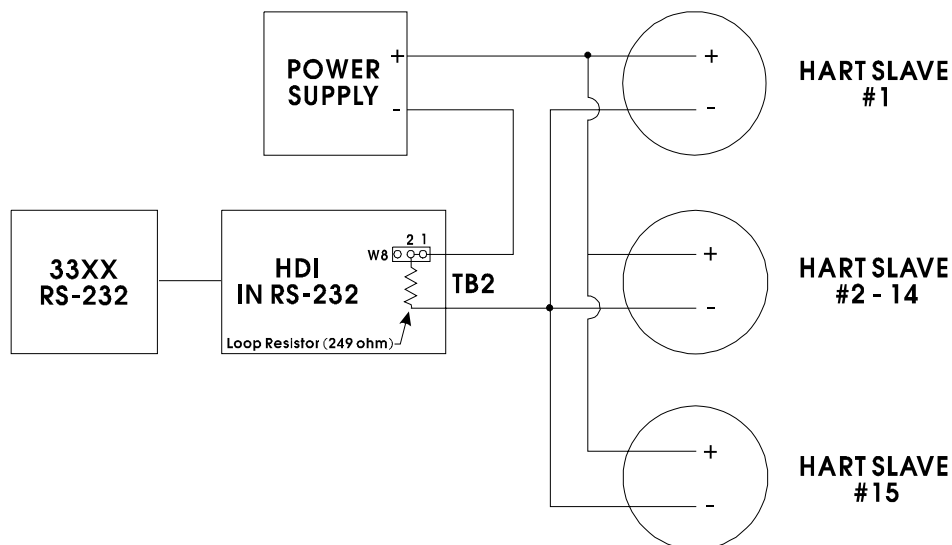
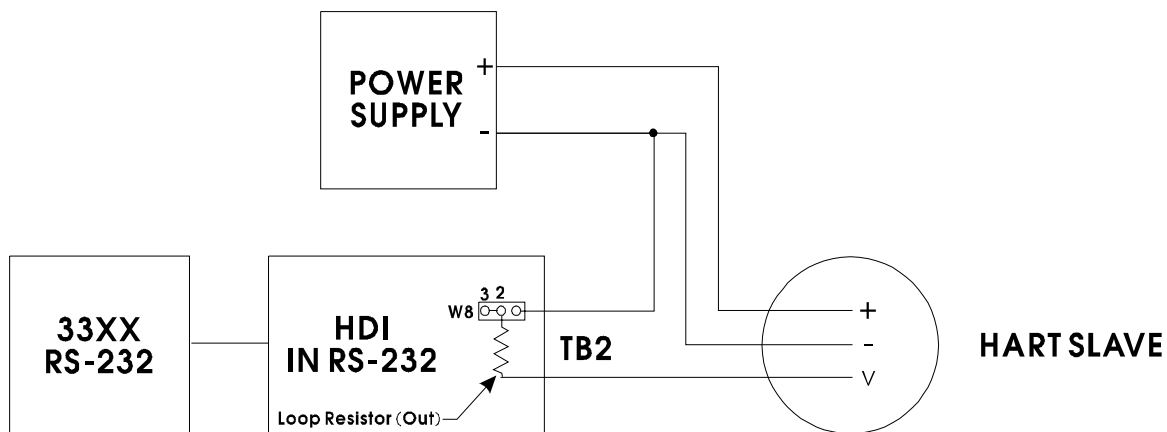

Figure 7 - Hart Slaves (Transmitters)(with 4-20 mA Current Source)
Figure 8 - Hart Slaves (Transmitters) (with +12 to +45 VDC Voltage Source) Connected to 33XX via HDI Board in RS-232 Mode
2. Connect the HDI board to the HART slaves as shown in Figure 7 (for 4-20mA current sourced transmitters) or to a single HART voltage output slave device as shown in Figure 8.